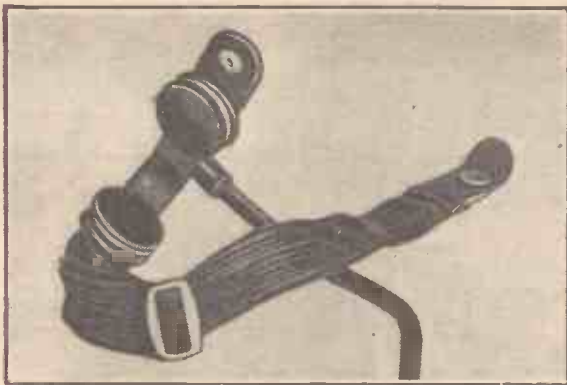

Fig. 1.—American T.30-S throat microphone.
T.30-S, and is available from S. Kershaw, 31, Bromsgrove Street, Birmingham, 5, at 3s. post free (see Fig. 1).